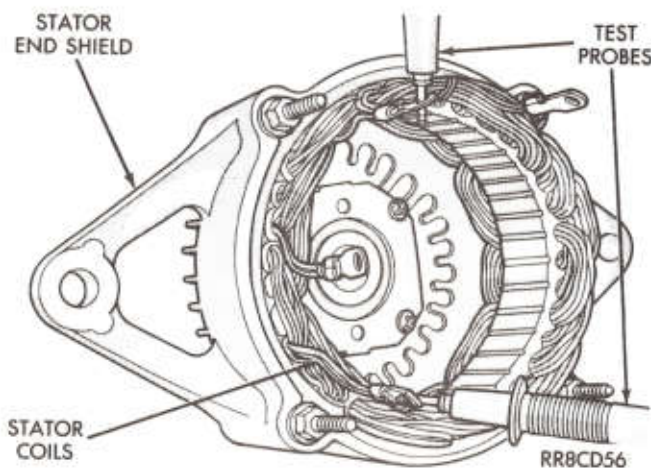

Fig. 14—Test Stator Circuit
(2) Test for continuity from one stator lead to the other three, the circuit should be closed (Fig. 14).